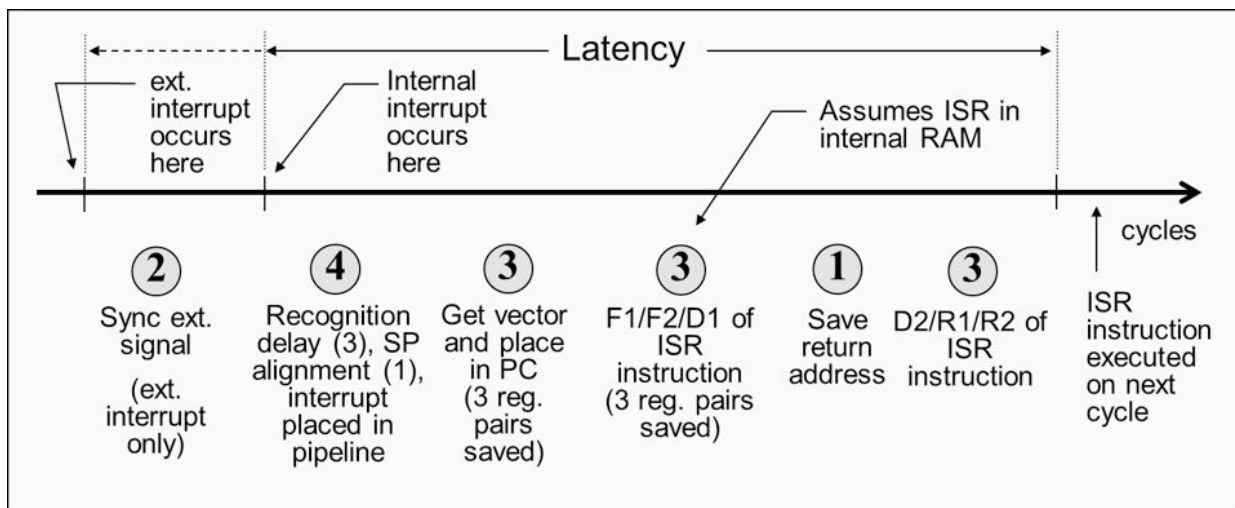

Figure 5. Interrupt Latency Flow
2. Maximum latency: Depends on C28x handles cycles for stack protection and restoration, wait states, INTM, and not interruptible RPT Instruction, as described in Figure 5.